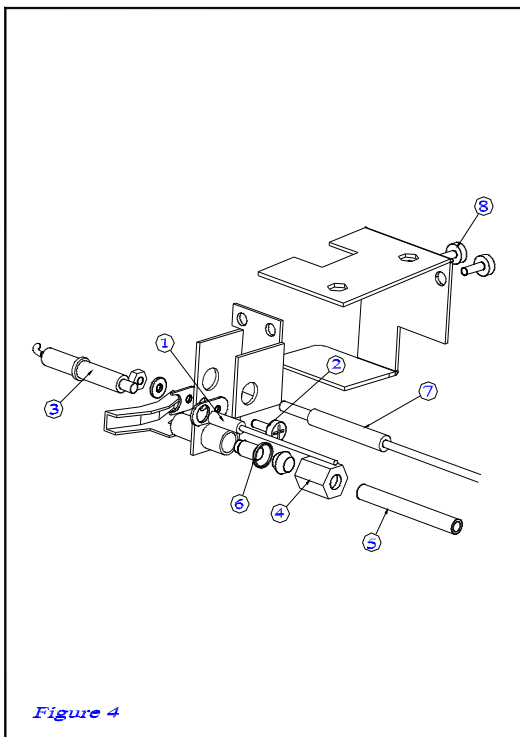

Figure 4
3. At the Pilot Burner, unscrew two screws (figure 4, item 8) and remove the pilot protection bracket inside the grilling compartment.
4. Unscrew nut (figure 4, item 4) and withdraw the thermocouple from the pilot burner assembly.
REMOVE/REPLACE (figure 4)
CLEAN/REPLACE (figure 4)